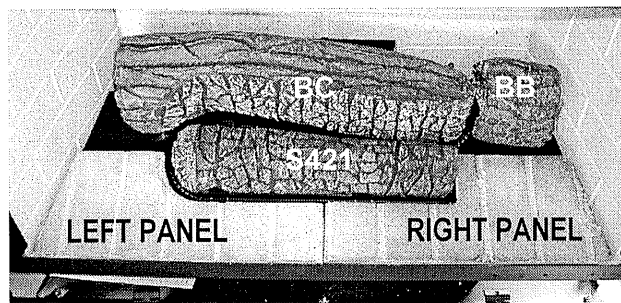

Figure I-1
I. LOG INSTALLATION. See Figures I-1 & I-4.
(1) 'BL' log (1) 'X5' log
- A) Position the left & right bottom refractory panels onto front of the burner cover and as shown in figure I-1.
- C) Place remaining base logs 'BB', & 'BC' into position on the burner cover aligning the holes in the bottom of the logs to the mounting studs as shown in figure I-1.